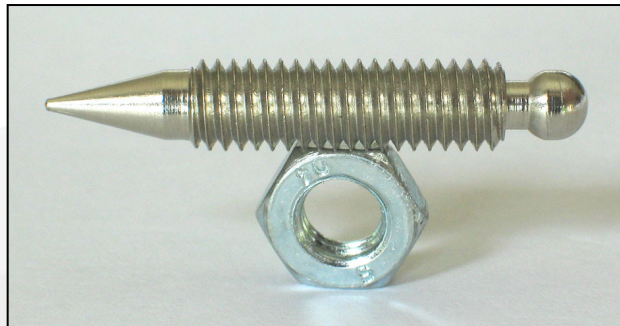
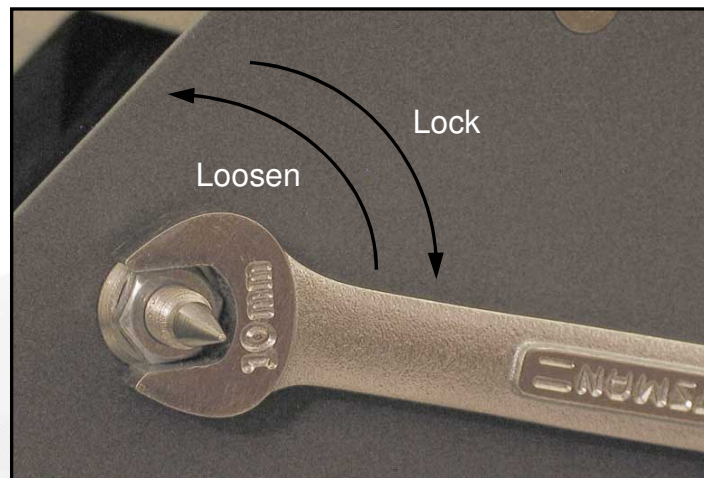

Figure 5. Double Ended Spike and Nut
Figure 6. Tightening a Spike Nut
The base of the HRS 120 is fitted with four spikes. These are double ended as shown in figure 5 and are locked in position with a nut. You will need an open ended 10mm spanner to adjust them - figure 6.
tighten the nut on the right front spike (figure 6), taking care not to change the spike's setting.
2. If the loudspeaker can be rocked in the 2 o'clock to 8 o'clock direction, lean the loudspeaker to the left and screw in the right hand front spike by the amount of movement you saw at the base of the cabinet. It is best to have an assistant to help you hold the loudspeaker. Stand the loudspeaker back up and repeat the process until the loudspeaker is sitting squarely on its spikes. Lean the loudspeaker to the left again and tighten the nut on the right front spike (figure 6), taking care not to change the spike's setting.